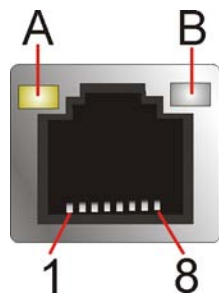

Figure 3-23: LAN Connector
- CN Pinouts: See **Figure 3-23** and **Table 3-19**